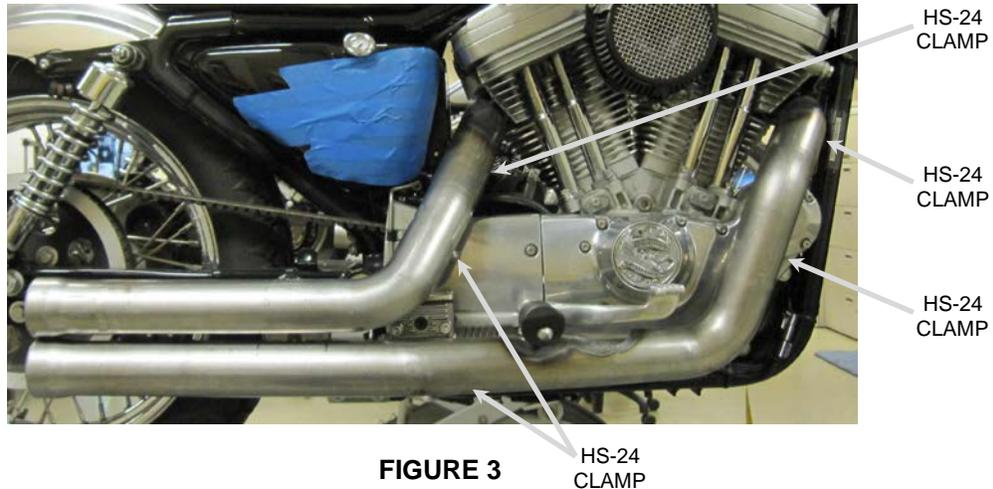

FIGURE 3
11. Unscrew the **HS-24** clamps and feed the tail end of the clamp through the clips on the inside of the heatshields. See **FIGURE 3** for proper positioning of the clamps on the heatshields. (NOTE: The arrows point to the positioning of the hex head of the clamps. The hex head of the clamps should be accessible for tightening but not visible when heatshields are mounted to the pipes.)
13. Install the rear heatshield the same way as the front heatshield. See **FIGURE 3**.